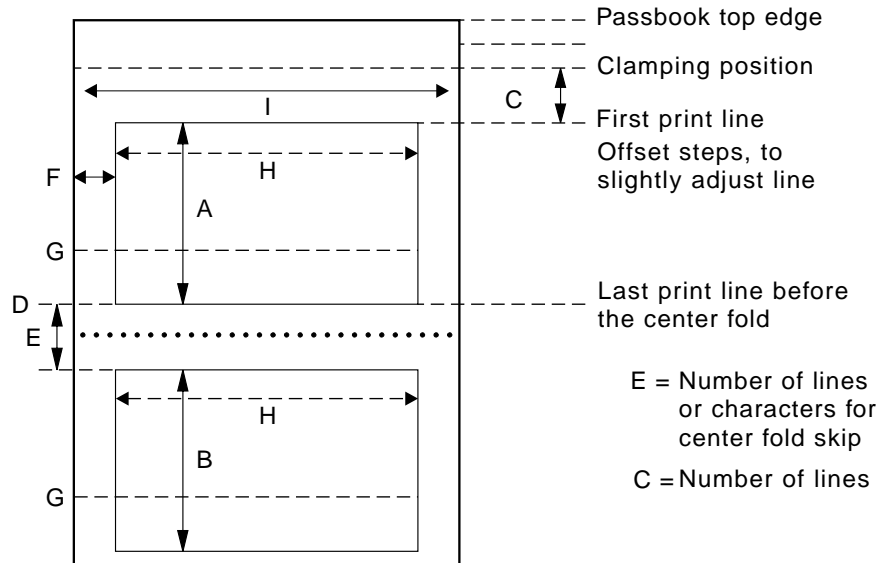

Figure 14. Passbook Dimensions for IBM 4748 Printer Customization
- BKWIDTH** Is an optional keyword to define the width of an open passbook in millimeters. The parameter value is a numeric field with three digits, in the range 120 through 213. The default is **210**. It is valid only when TYPE=REMS. (Refer to 'I' in Figure 14 on page 330.)
**FOLDBEG** Is an optional keyword to define the last line or character position before the center-fold skip for horizontal or vertical passbooks (refer to 'D' in Figure 14 on page 330).
Is an optional keyword to define the total number of lines or character positions skipped for horizontal fold or vertical fold passbooks. (See dimension 'E' in Figure 14 on page 330.)
- HRZOFFS** Is an optional keyword to define the horizontal character offset. That is, the number of characters that the first print character is to be offset beyond the minimum distance from the left edge (refer to 'F' in Figure 14 on page 330).
- LINELEN** Is an optional keyword to define the maximum line length (number of characters being written in one line). (Refer to 'H' in Figure 14 on page 330.)
Is an optional keyword to define the page size, that is, the number of print lines per page. (See dimension 'A' and 'B' in Figure 14 on page 330.)